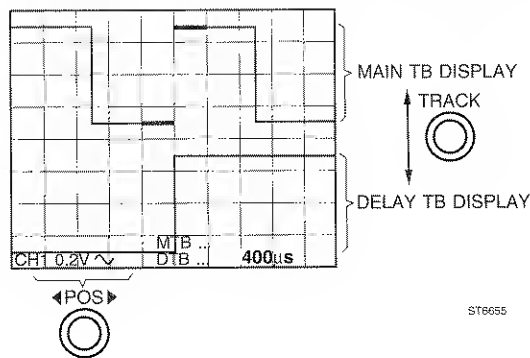

Figure 3.9
- Adjust the DELAY control in the DELAYED TIMEBASE section so that the display shown in Fig. 3.9 is obtained. For this the TRACK control must be adjusted so that MAIN TB is above the DEL'D TB display.
- Adjust the DELAY control in the DELAYED TIME BASE section so that the display of Fig. 3.9 is obtained. To do this the TRACK control must be adjusted such that MAIN TB is above the DEL'D TB display.